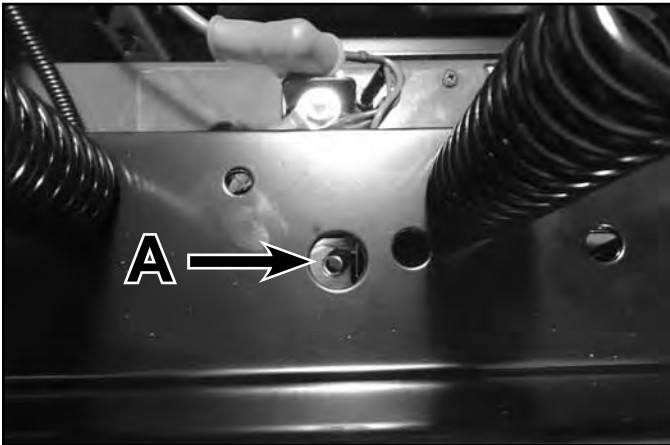

Fig. 162
2. Install and sufficiently tighten the (4) mounting screws.
4. Install the (2) brake rods, (2) washers, and install the (2) hairpins onto the module.
7. Install connector cover and fastener (A) (Fig. 162).